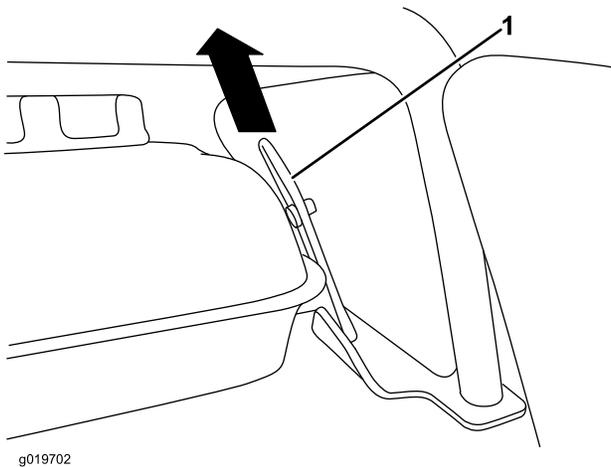

Figure 11
2. Remove the water tank from the frame by pulling up on the elastic tank latch (Figure 11).